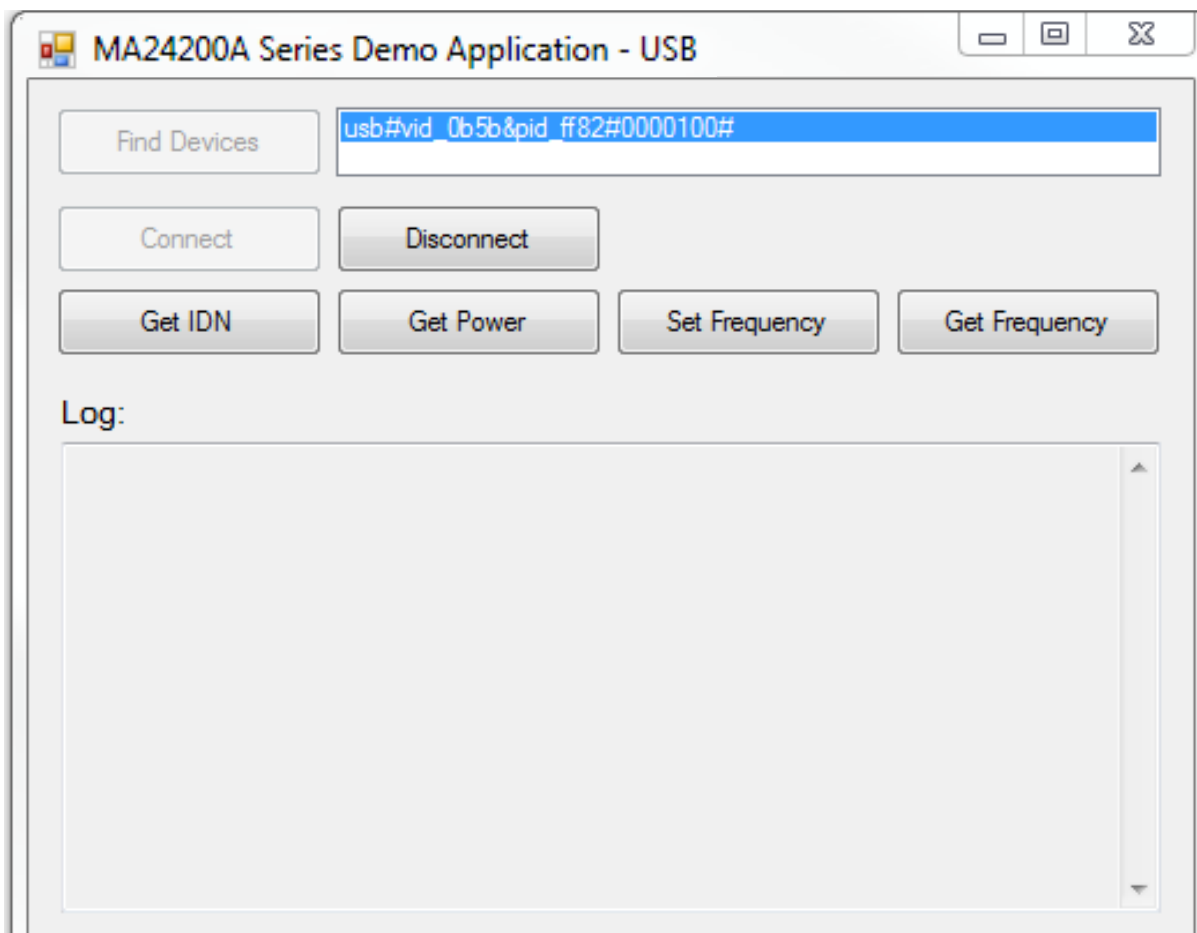

Figure A-2. Demo Application
1. User must close all applications which communicate with power sensors prior to running the Demo Application. The Anritsu Sensor Driver Reference Guide downloaded from the web provides the Overview, Getting Started Instructions and Sample Code to launch the Demo Application. Double click on **BBSensorDriverDemo.exe**. The application screen shown in Figure A-2 will appear.